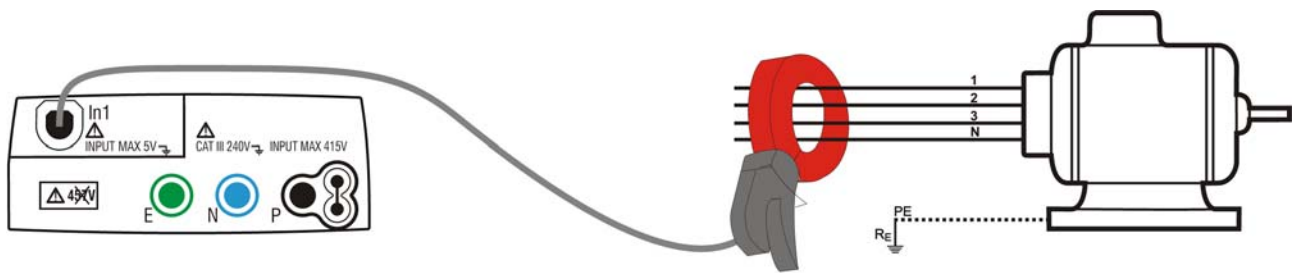

Fig. 30: Indirect measurement of leakage current in three-phase systems
- For indirect measurements of the leakage current, connect the external clamp according to Fig. 30. For direct measurements of the leakage current, connect the external clamp according to Fig. 31 and disconnect possible additional earth connections which could influence the test results